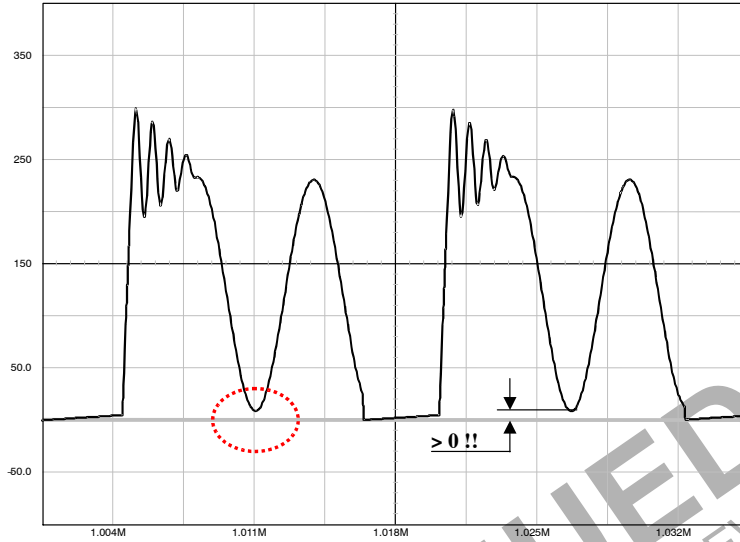

Figure 28. The Drain-Source Wave Shall Always be Positive . . .
1. In any case, the lateral MOSFET body-diode shall never be forward biased, either during startup (because of a large leakage inductance) or in normal operation as shown by Figure 28.